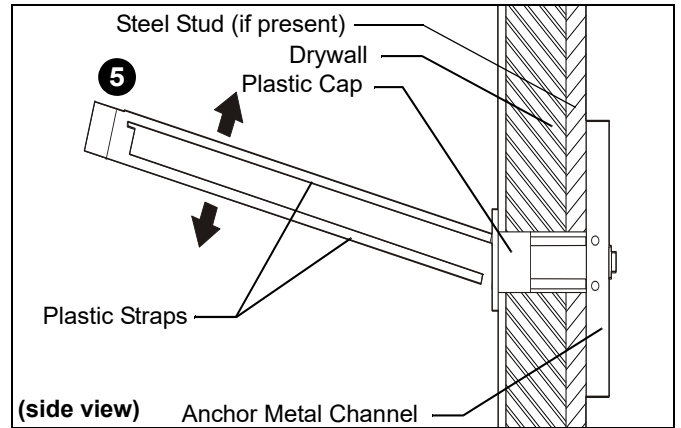

Figure 13
5. Snap off plastic straps on anchor at wall by pushing side to side, snapping off straps level with flange of plastic cap. (See Figure 13)